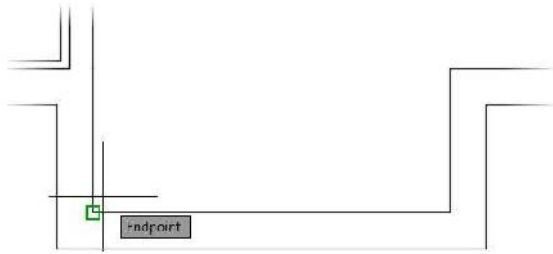

FIGURE 5.70: Starting the hot tub polyline
2. Start the Polyline (PLINE) command, and click the bottom-left inside corner of the pop-out to the right of the bathroom, as shown in Figure 5.70.